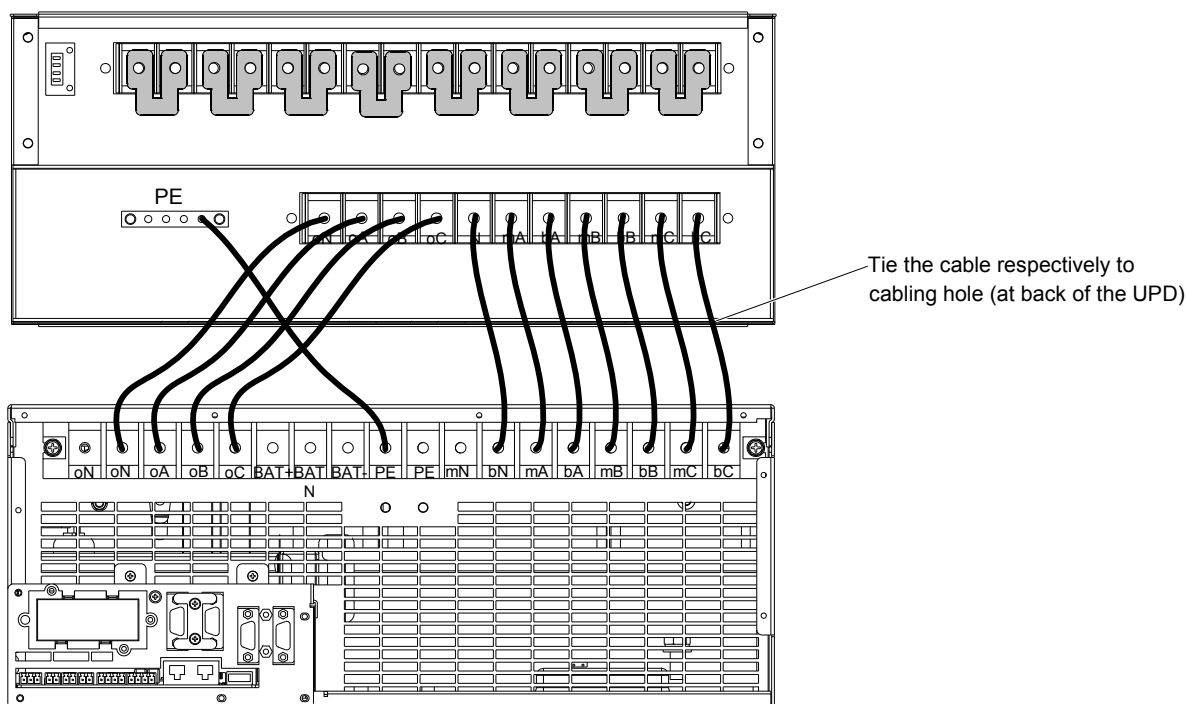

Figure 3-4 Power cable connection and cabling
Figure 3-2 shows the UPS power cable connection terminals. Figure 3-3 and Figure 3-4 show the power cable entry and routing methods.
Refer to Figure 3-2 ~ Figure 3-4, connect the power cables as described in the following procedures:
2. As shown in Figure 3-4, use the cable (accessory) to connect the UPS and UPD, and ensure that the connection is reliable and the phase rotation is correct. Note to tie the cable respectively to cabling hole (at back-end of the UPD).